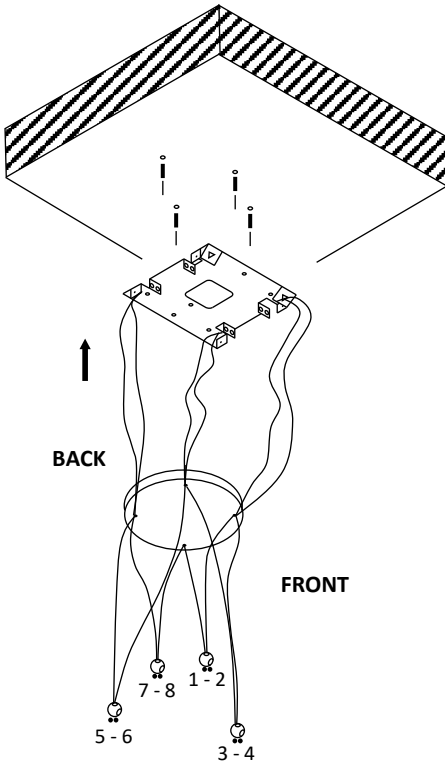

Fig 9
6. Fix ceiling bracket to ceiling (Fig 9).